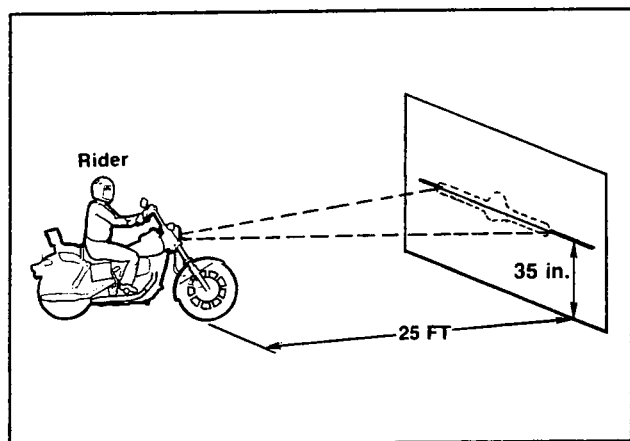

Figure 4. Revised NAL Headlamp Alignment
2. See Figure 4. Place motorcycle on level floor (or pavement) in an area with minimum light.